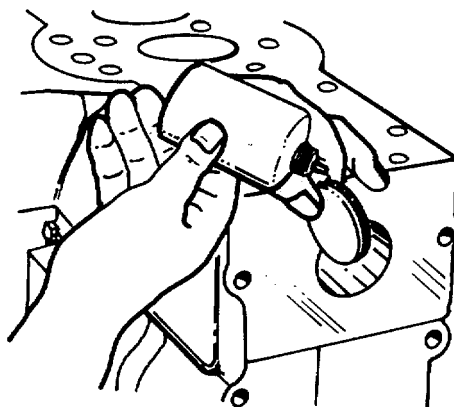

FIGURE 4-97. Applying Loctite.
- m. Apply a bead of loctite 277 to the coolant passage cup plugs. (FIGURE 4-97).